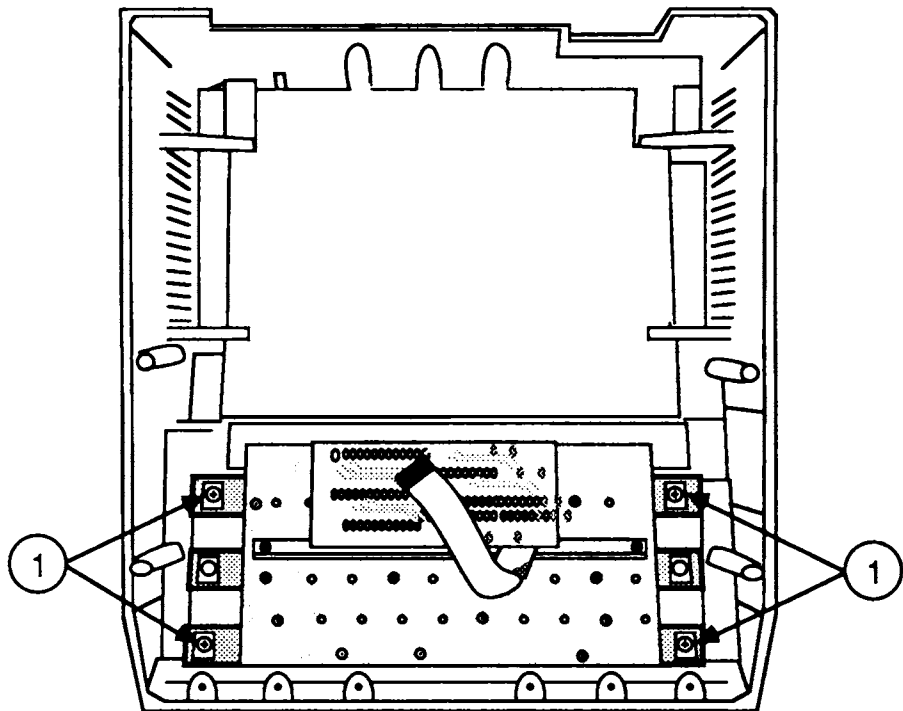

FIGURE 4
IPL.5	Keyboard Encoder Card (Figure 4)
3. Remove the four nuts and lockwashers (Figure 4, #1) securing the keyboard to the housing, and remove the keyboard.